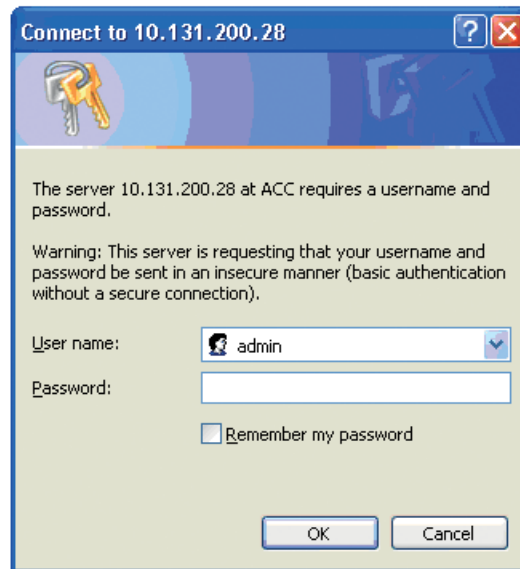

Figure 17 - Connect
3. Start the Internet browser on the computer and enter the IP address in the Address bar after HTTP and you should get a connection box, see Figure 17 on page 40.